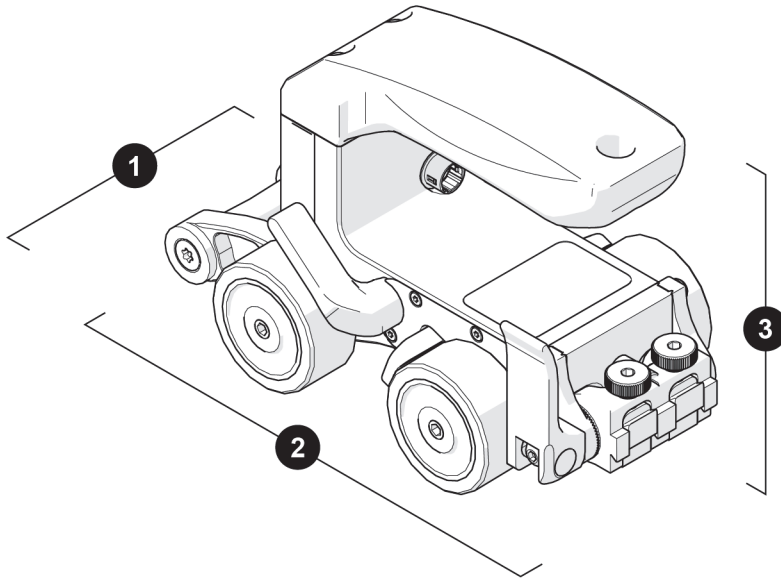

Figure 7-1 Cart dimensions
Cart dimension (① × ② × ③)	8.1 cm × 15.3 cm × 9.8 cm (3.9in. × 3.2in. × 6.0 in.) (see Figure 7-1 on page 108).